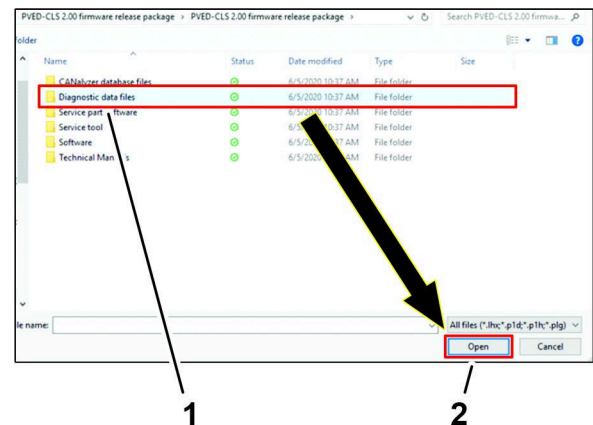

Figure 44
5. Click the Diagnostic data files folder, and click the OPEN icon (Figure 44).